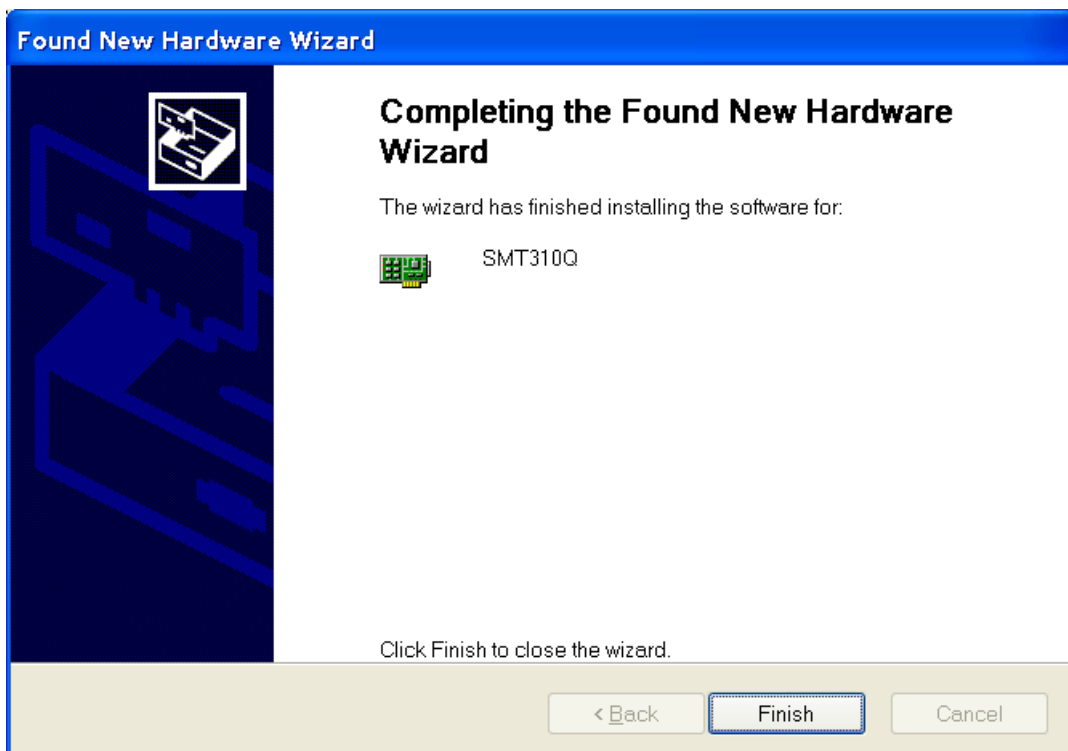

Figure 2 - Hardware wizard detected the Sundance hardware
5. Click "Next >". The wizard should indicate that the SMT310Q has been installed successfully (Figure 2);